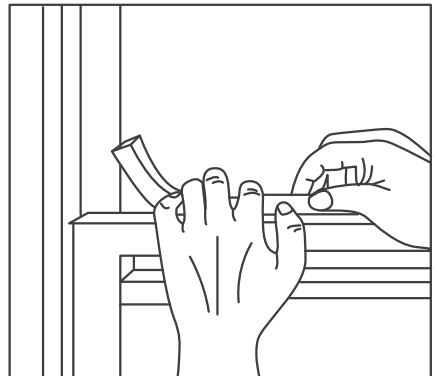

Fig.12
- 7 Cut foam seal and insert in the space between the upper and lower sashes (Fig.12).